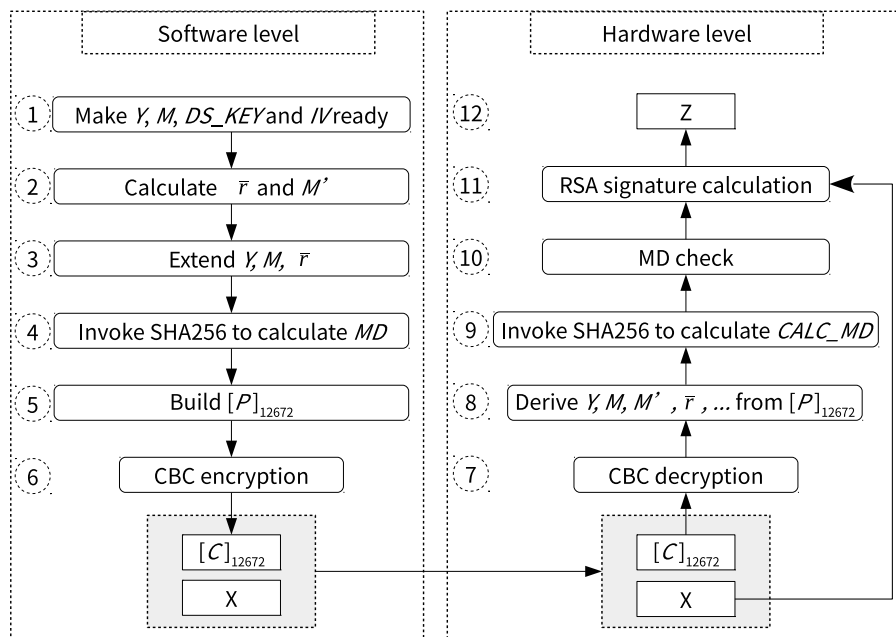

Figure 22-1. Software Preparations and Hardware Working Process
The left side of Figure 22-1 lists preparations required by the software before the hardware starts RSA signature calculation, while the right side lists the hardware workflow during the entire calculation procedure.
1. The software preparation (left side in the Figure 22-1) is a one-time operation before any signature is calculated, while the hardware calculation (right side in the Figure 1-1) repeats for every signature calculation.
Users need to follow the steps shown in the left part of Figure 22-1 to calculate C . Detailed instructions are as follows:
1. Decryption: Step 7 and 8 in Figure 22-1
The decryption process is the inverse of Step 6 in figure 22-1. The DS peripheral will call AES accelerator to decrypt C in CBC block mode and get the resulted plaintext. The decryption process can be represented by $P = \text{AES-CBC-DEC}(C, DS_KEY, IV)$, where IV (i.e., $[IV]_{128}$) is defined by users. $[DS_KEY]_{256}$ is provided by HMAC module, derived from $HMAC_KEY$ stored in eFuse. $[DS_KEY]_{256}$, as well as $[HMAC_KEY]_{256}$ are not readable by users.
2. Check: Step 9 and 10 in Figure 22-1
The DS peripheral will perform two checks: MD check and padding check. Padding check is not shown in Figure 22-1, as it happens at the same time with MD check.
3. Calculation: Step 11 and 12 in Figure 22-1